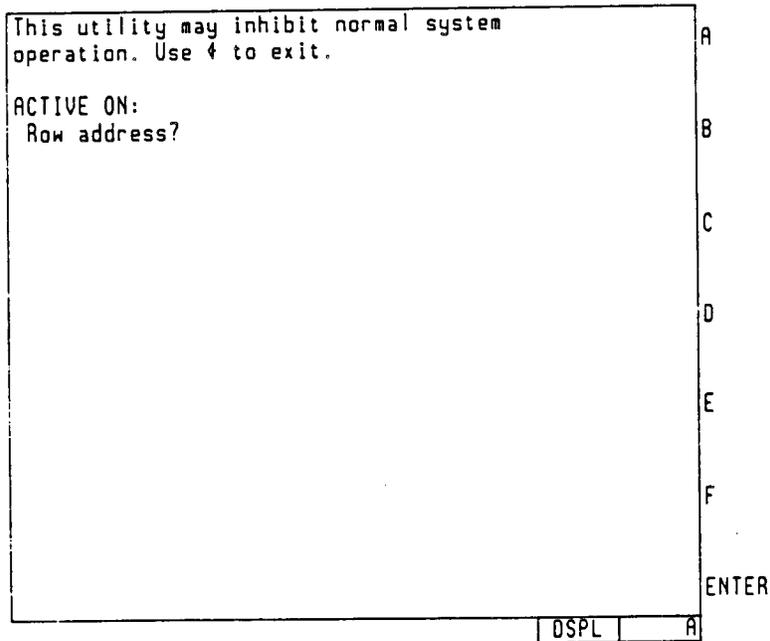

Figure 5-12. Alphabetical Softkeys
4. Enter the column address of the module as a hexadecimal number. Refer to Table 5-1 for decimal-to-hexadecimal conversion information. Use the alphabetical softkeys (Figure 5-12) and the key pad to enter the hexadecimal numbers.